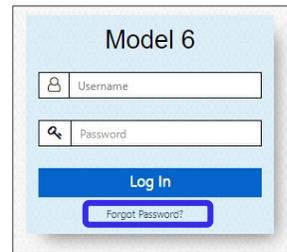

Figure 27: Model 6 Prover software login screen
1. In the login screen, enter your username, and click **Forgot Password** (Figure 27).